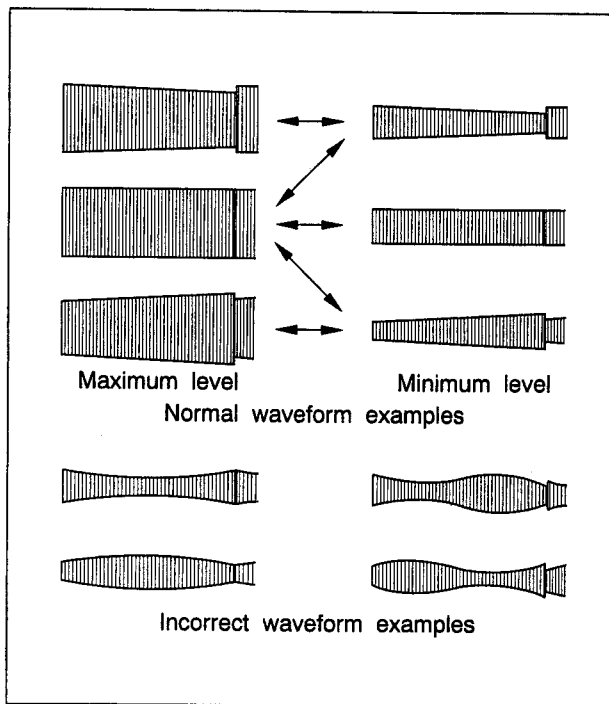

Fig. 2-7-1
- (1) Connect the oscilloscope to TP6(PB FM) on the PRE/REC board. Use TP11(D.FF) on the PRE/REC board as a trigger. Set to $\ominus$ trigger slope of oscilloscope when MHPE alignment tape is played back and set to $\oplus$ trigger slope when MHPE-L alignment tape is played back.
- (2) Playback the SP stairstep portion of the alignment tape [MHPE]. Confirm that the FM waveform appears as indicated in Fig.2-7-1.
- (3) Set the manual tracking position by simultaneously pressing the "-" and "+" tracking buttons.
- (4) Operate the tracking adjustment (press the tracking buttons during playback) and set for maximum playback FM waveform.
- (5) By operating the tracking button, vary the FM waveform from maximum to minimum and vice versa to confirm that the waveform varies nearly in a flat shape as shown in Fig.2-7-1.